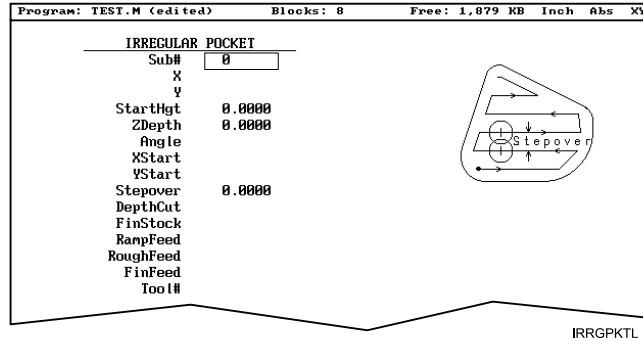

Figure 4-23, IRREGULAR POCKET Graphic Menu
2. Highlight **IRRegular** and press **ENTER** to display the **IRREGULAR POCKET** Graphic Menu. Refer to **Figure 4-23**.